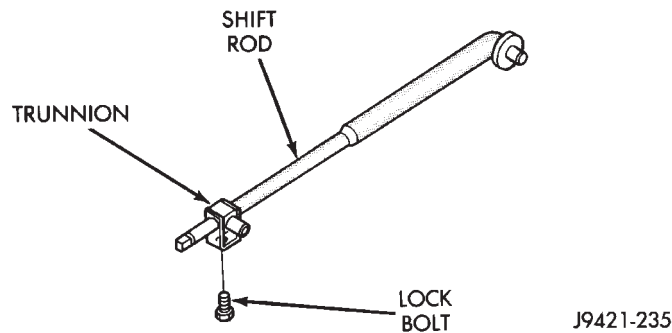

Fig. 100 Shift Rod Lock Bolt Location
- Loosen shift rod lock bolt at trunnion (Fig. 100).